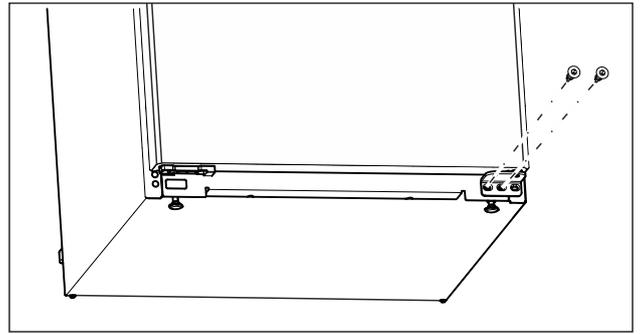

Fig. 7
- ▶ Unscrew the middle screw on the lower swap bearing block using a Torx 20 screwdriver. (see Fig. 7)
- ▶ Unscrew the inner screw on the lower swap bearing block using a Torx 20 screwdriver. (see Fig. 7)